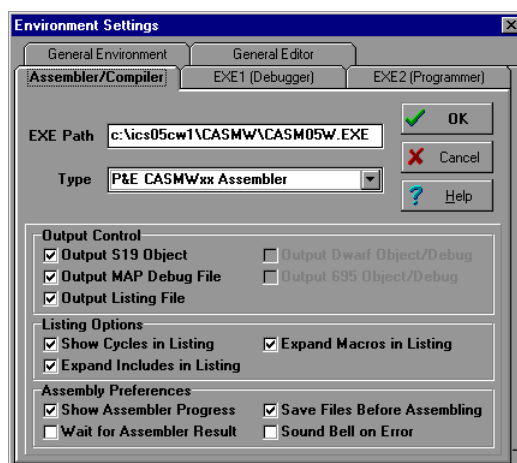

Figure 1-2. WinIDE Environment Settings Dialog Assembler/Compiler Tab
- Click on the *Assembler/Compiler* tab label to bring the tab (Figure 1-2) to the front. Set the executable path and filename, type, and other options for the CASM05W assembler or other application.